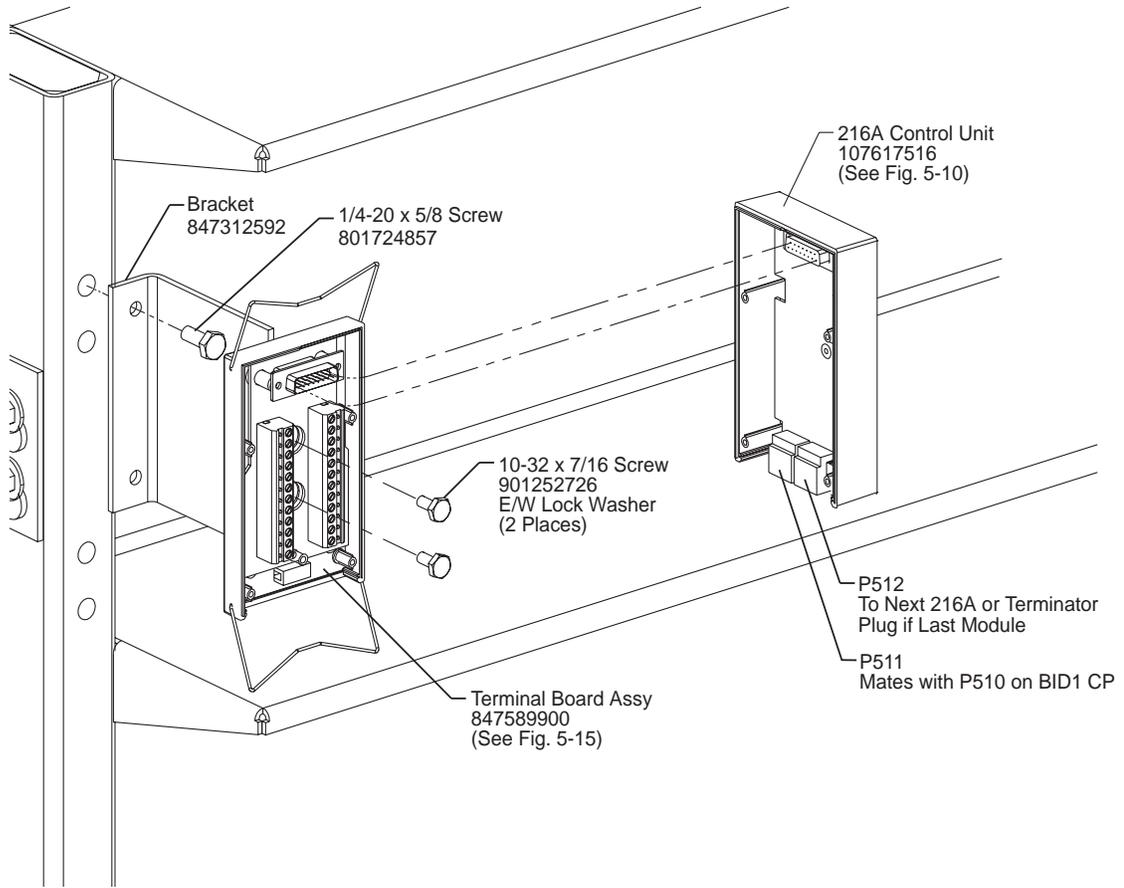

Figure 5-14: 216A Control Unit and Terminal Block Base Assembly
4. Mate the 216A Control Unit to the Terminal Block Base Assembly. See Figure 5-14. Latch the two units together with the clips on the base.